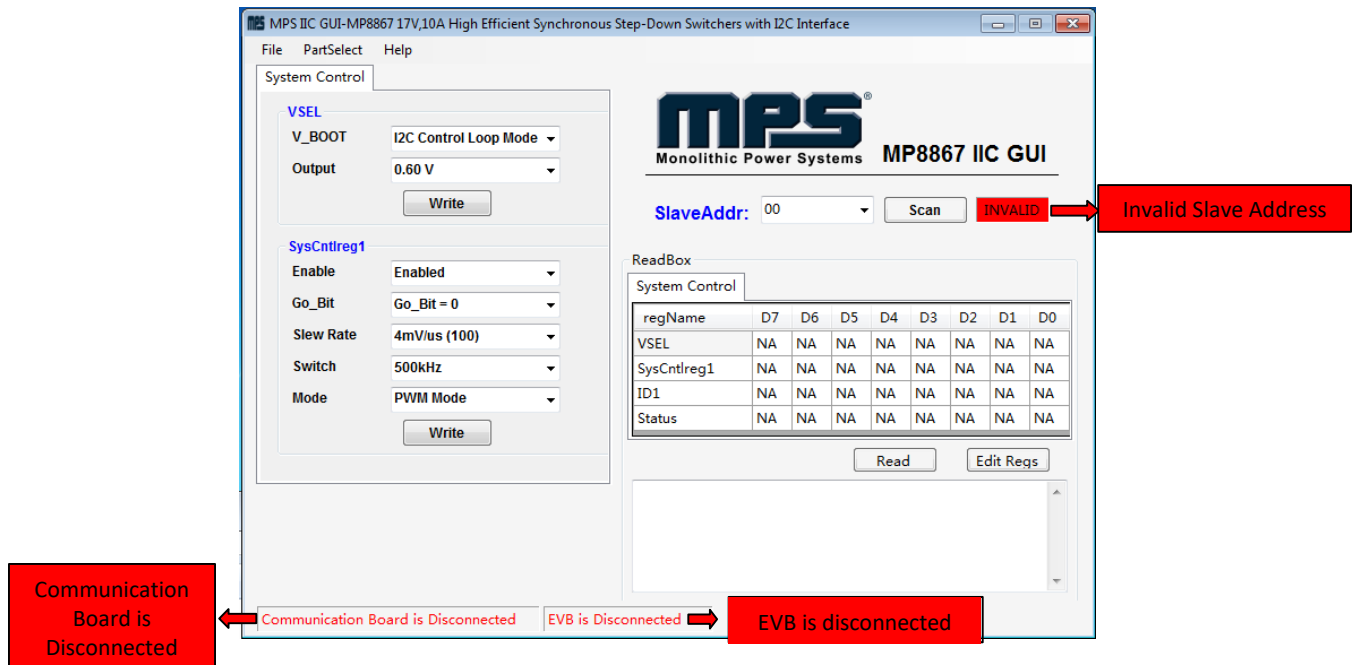

Figure 8: Warning Indicates Unsuccessful Connection
- If not, a warning will appear at the bottom. There are two warnings users can expect (see Figure 8). Each warning means there is an invalid connection.